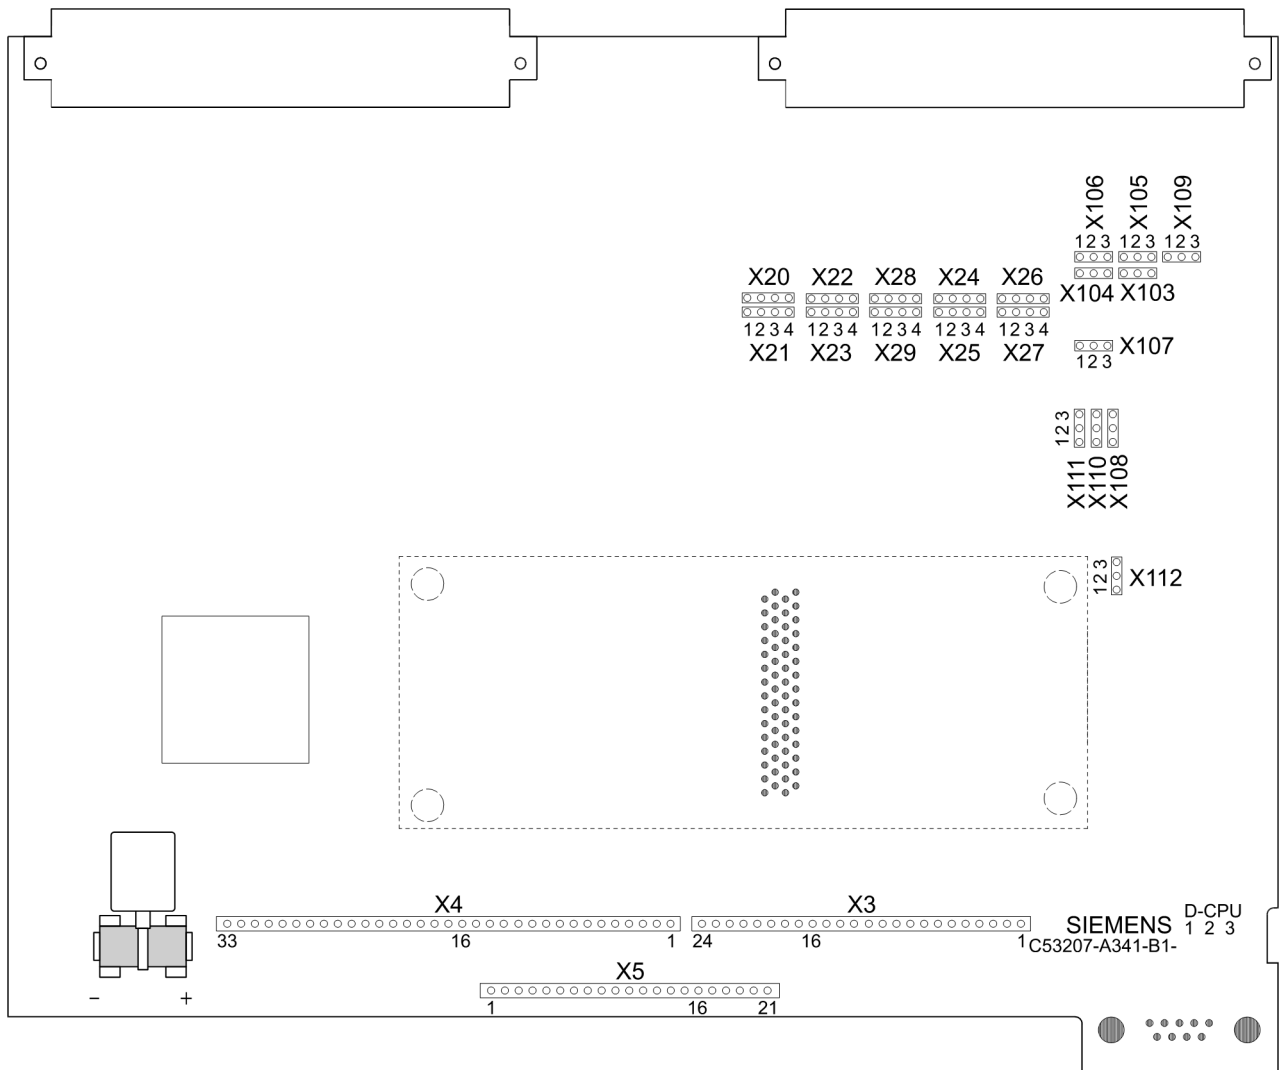

Figure 3-2 Location of the jumpers and the buffer battery on the D-CPU module (central unit)
- ❑ Remove the front plug connectors X3, X4, X5 on the D-CPU module (Figure 3-2, page 54).
- ❑ Change the rated control voltages for the binary inputs of the D-CPU module by relocating the jumpers (shown in Figure 3-2, page 54 and Table 3-2, page 54).
- ❑ Press the battery firmly into its snap-in holder (see Figure 3-2, page 54) on the D-CPU module. **Observe the correct battery polarity!**